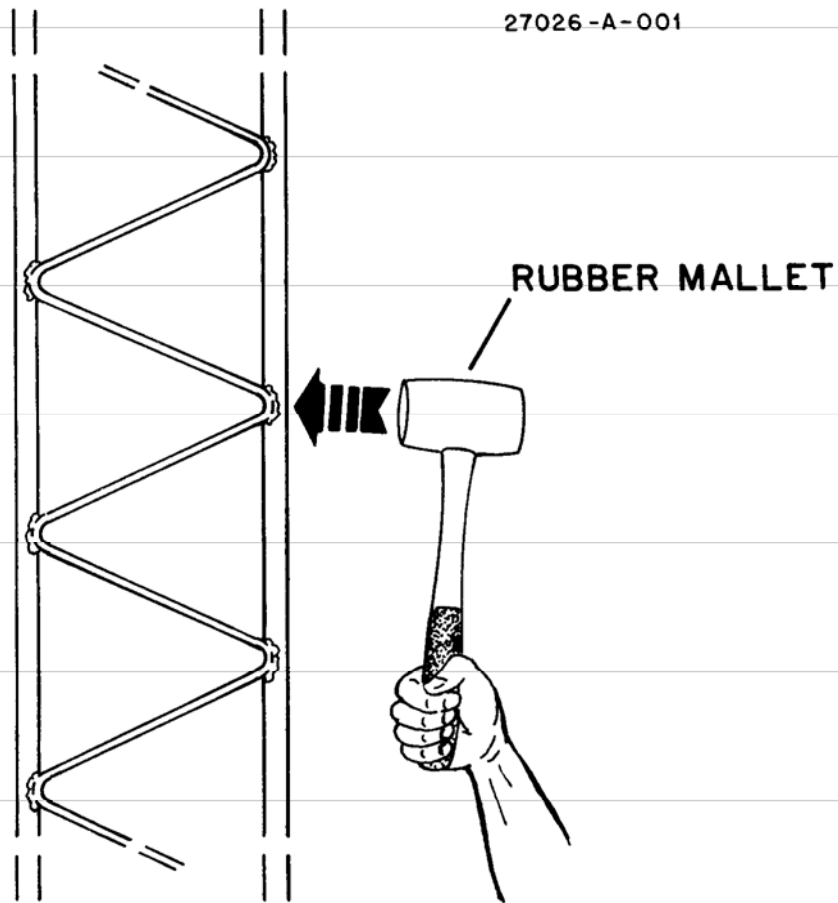

Figure 15
To correct these problems, crank the tower back up until the cable is tight. A soft, rubber faced hammer can be used on the tower legs while lowering the tower to jar the obstruction free. If you use a rubber mallet, tap only on the tower leg where the bracing meets the leg and tap as far up on the bottom section as you can reach. **NEVER TAP ON ANY TOWER BRACING!** See Figure 15.
- Refer to Figure 15. Loosen the two #10 x 3/4" bolts on each end of the removable brace. Loosen the two #10 locknuts then loosen the two #10 x 3/4" bolts.